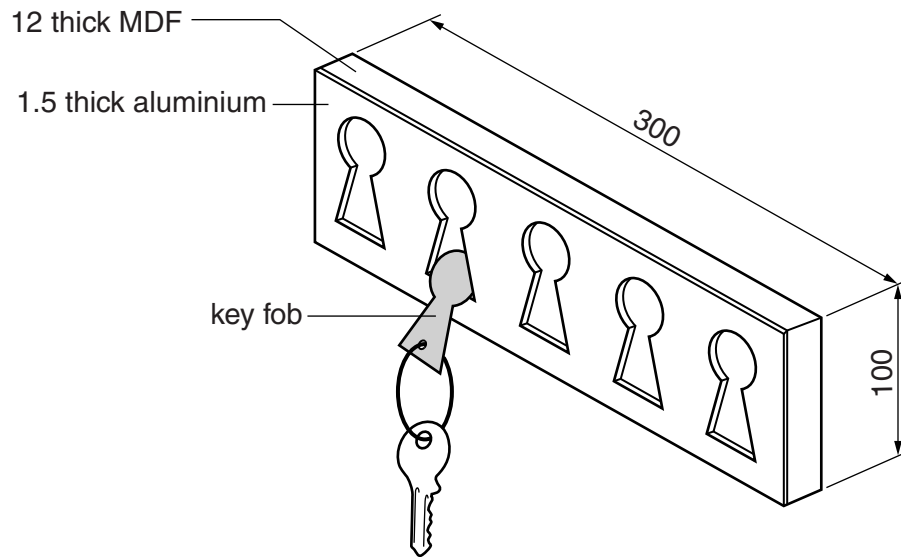

Fig. 16
- 13** Fig. 16 shows a wall-mounted key rack. The front of the key rack and the key fob are made from 1.5 thick aluminium sheet. The back is made from 12 thick MDF.